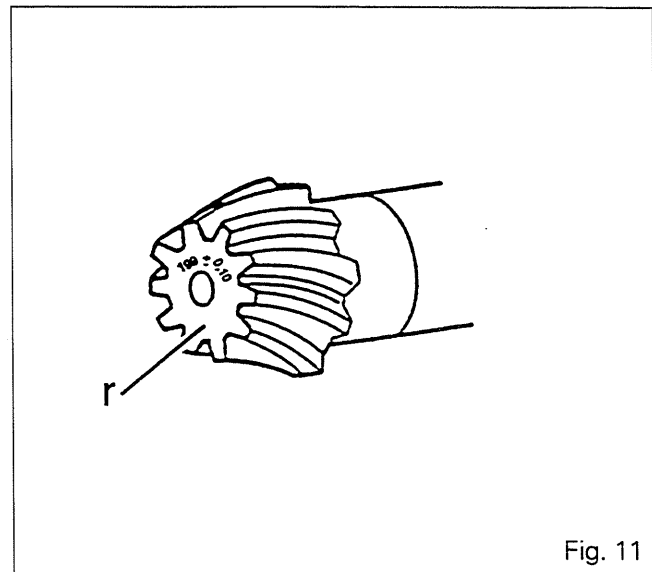

Fig. 11
**SP:** Required thickness of shims (8)
**C:** Dimension measured between the mating face of the cup (9) on the housing (9) and the machined face **F**.
**E:** Thickness of the bearing (9), (10)
**r:** Actual dimension marked on the drive pinion (Fig. 11).